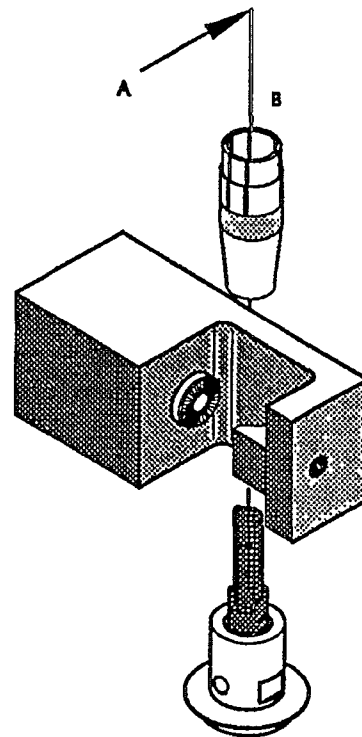

Fig 5.1 In clamp device
1. Move robot to waiting position A (refer to Fig 5.1)